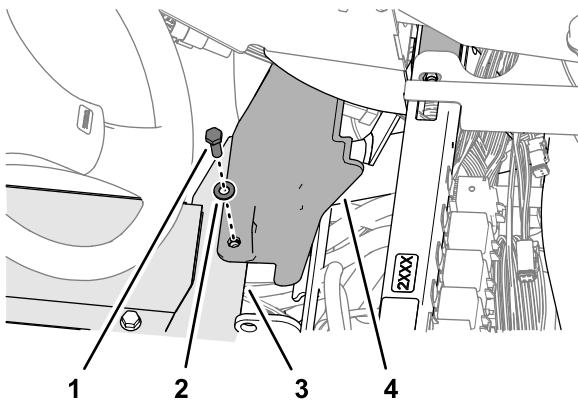

Figure 102
6. Align the hole in the right, front fender with the hole in the platform floor (Figure 102), and secure the fender to the floor with a cap screw (5/16 x 1 inch) and washer (5/16 inch).